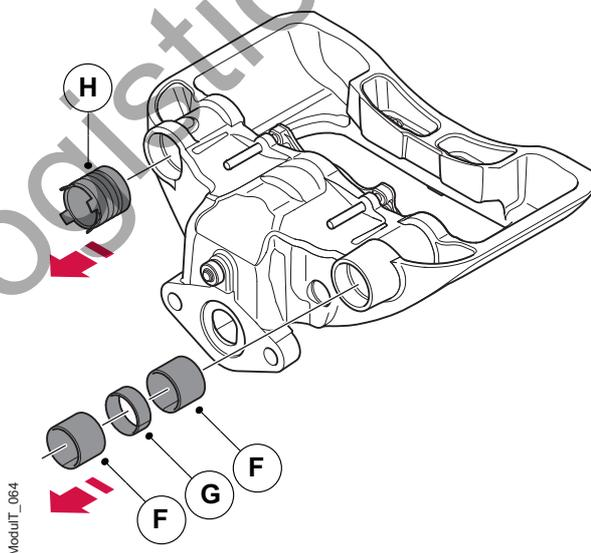

Figure 54. Remove the slide bearings and composite side bushing
- Carefully follow steps 8 and 9 below to remove the two leading bearings (F) and the spacer (G) and trailing composite bushing (H), see figure 54.